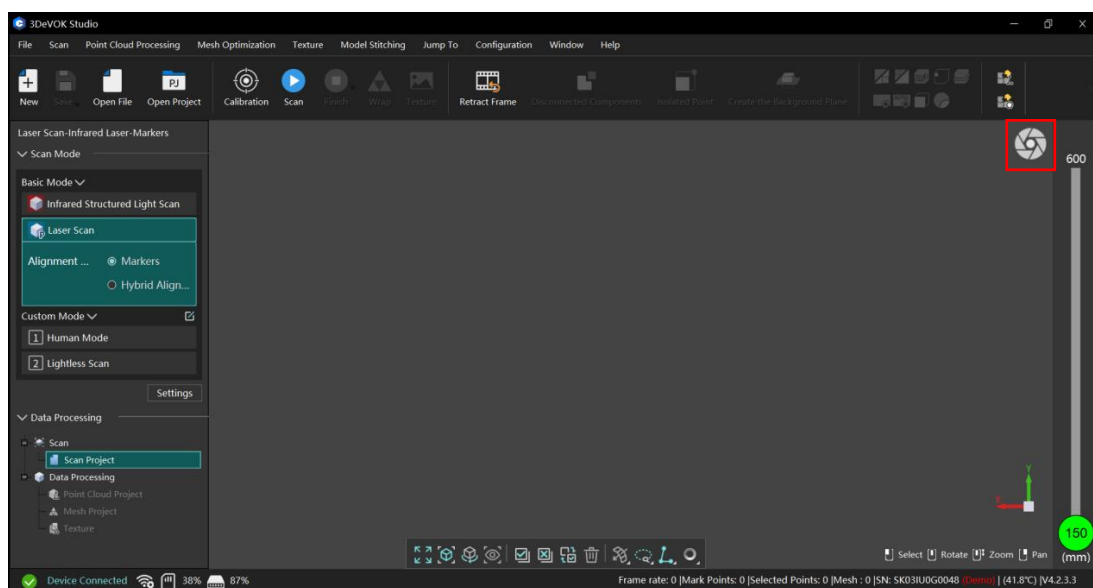

Figure 7-12 Camera Field of View
The camera field of view provides real-time visualization of the scanner's observable area, enabling operators to: (1) verify object position relative to the optimal scanning zone, while simultaneously monitoring (2) laser line intensity, (3) color camera fill light levels, and (4) color camera exposure values for comprehensive process control, which is shown in Figure 7-12.